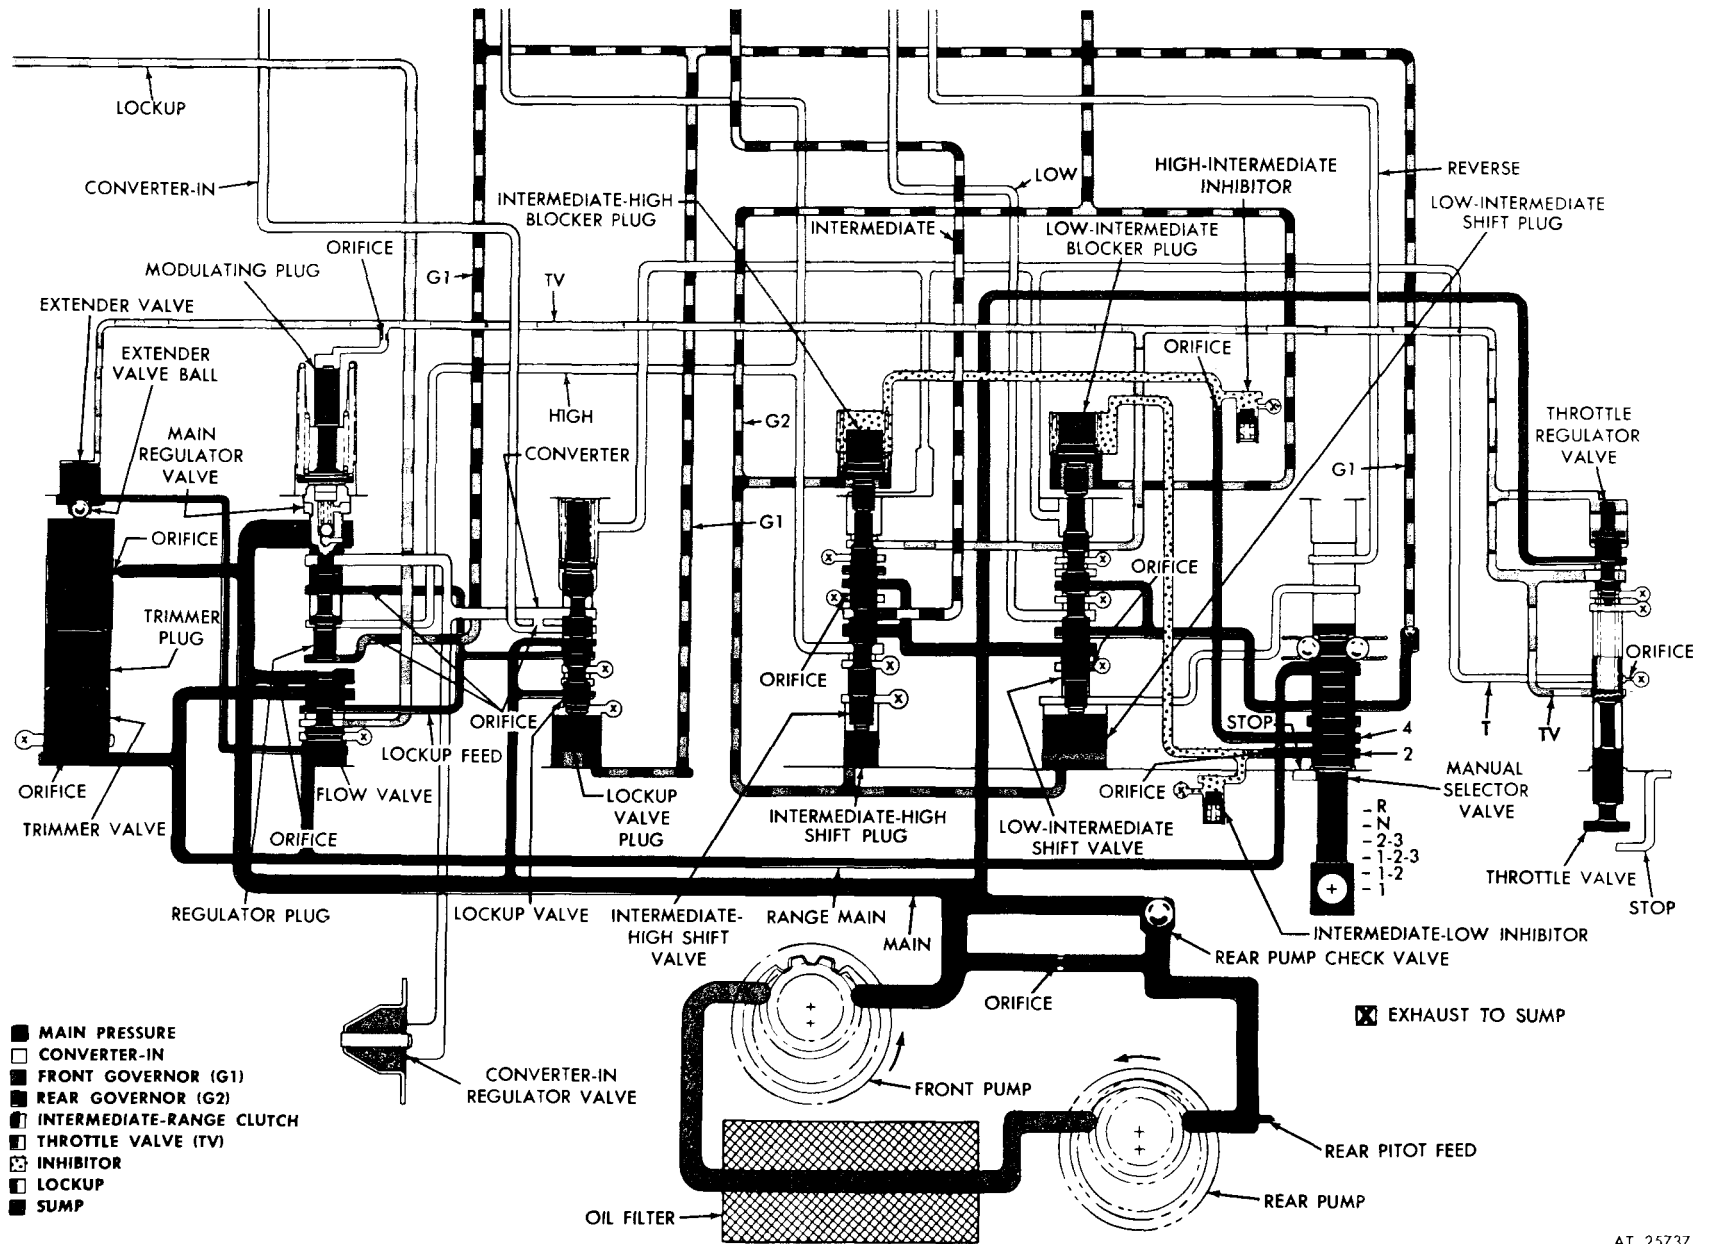

Figure 2-10. Hydraulic system, intermediate-low inhibitor acting—schematic view.
*a. Inhibitor Prevents 2-1 Downshift at Excessive Speed (fig. 2-10).*
(1) Figure 2-10 illustrates the hydraulic System in intermediate-range operation even though the manual selector has been moved to a position which does not indicate intermediate-range operation. This condition results when vehicle (transmission output) speed is too great for safe operation in low range at the time a manual downshift is made.
(2) When the manual downshift is made, rear governor (G2) pressure is sufficient to continue holding the low-intermediate shift plug, shift valve, and blocker plug upward against spring force and inhibitor pressure. This extends intermediate-range
(3) When vehicle speed decreases, G2 pressure also decreases. When G2 pressure falls to a value which will no longer hold the low-intermediate shift plug, valve, and blocker plug upward against spring force and inhibitor pressure, the downshift to low range will occur. This is an automatic shift, which lags behind the manual shift.
*b. Other Functions Same as Low-Range operation (fig. 2-10).* In intermediate-range operation (selector at 1-position), the circuits not involved in action of the intermediate-low inhibitor operate as described in paragraph 2-15 for low-range operation.